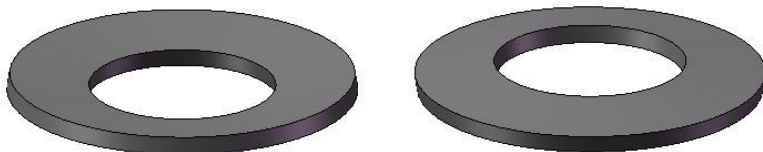
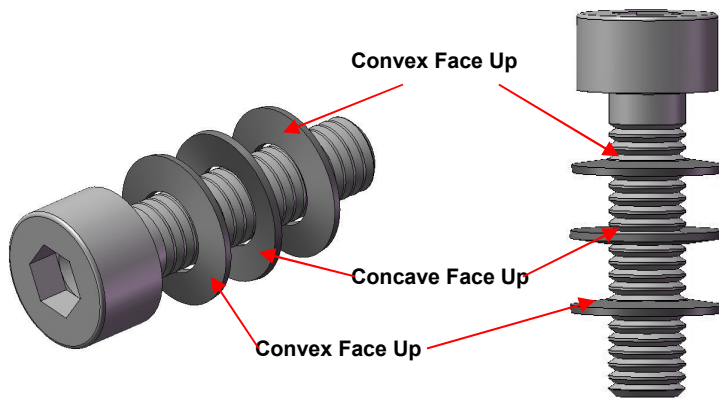

Fig 4. “Belville” Spring Washers – Concave Face Uppermost (Left) and Convex Face Uppermost (Right)
Fig 5. Arrangement of the 3 Belville Spring Washers for Each M3 x 12mm Fixing Bolt Assembly.
Fig 4. shows that the Belville spring washers (8) used are “dish shaped” in their structure, such that when they are laying flat on a level surface the uppermost face of the washer will be either concave or convex in nature. In construction of a bolt (7) and three spring washer (8) assembly when rebuilding a **demountable liquid cell** it is very important that the spring washers are placed in an alternating convex face up/concave face up/concave face up construction on the bolt. Please see **Fig 5.** to show the sequence of each spring washer on each bolt assembly.